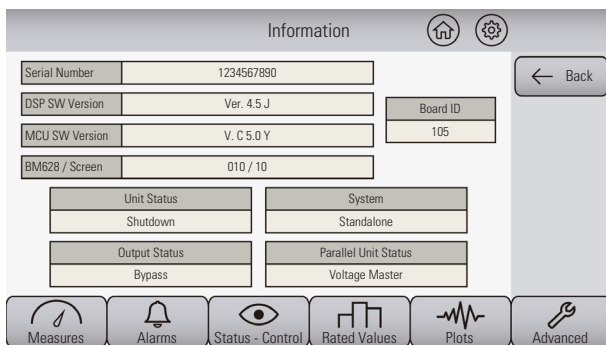

Fig. 40a. Screen displayed when touching over .
- Press over the  icon located in the side menu of the main selected UPS screen. A screen like Fig. 40a will be displayed, where the shown information can differ.
- The information screen will be displayed. In this screen the UPS hierarchy can be checked under the statement «Parallel Unit Status» and in Fig. 40a it is shown as a «Parallel Master Voltage» example. It is necessary to go to the information menu of the touch screen of each UPS, in order to check its hierarchy as regards to the rest of the system, which is dynamic depending on the status of the rest of the equipments: